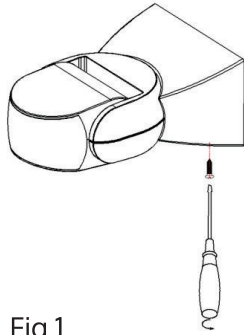

Fig 1
- 1) Loosen the screw on the bottom and unload the bottom (refer to the figure1).